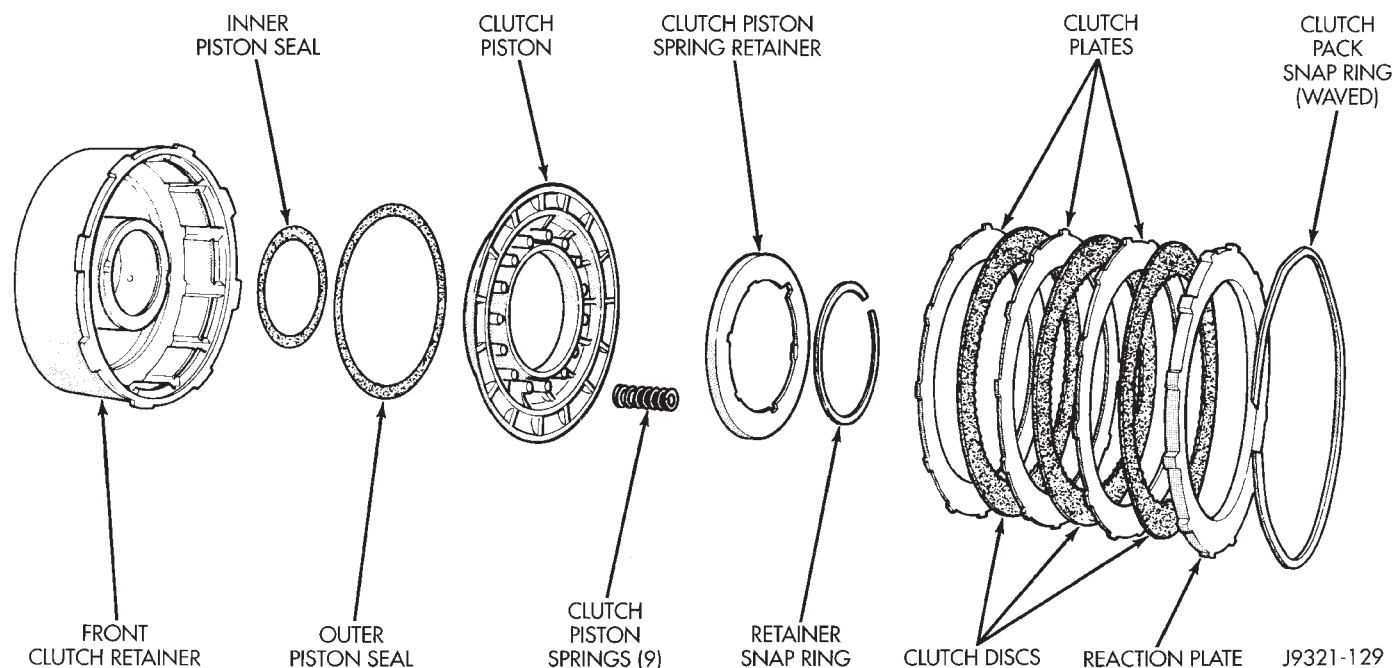
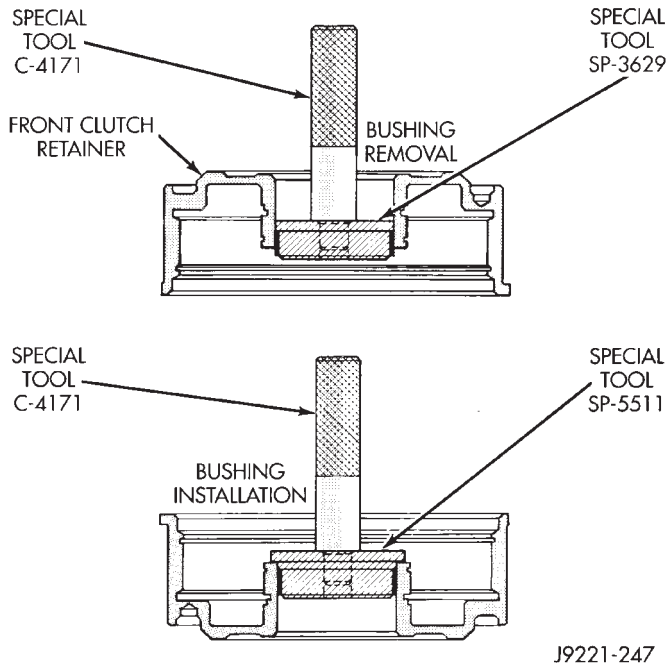
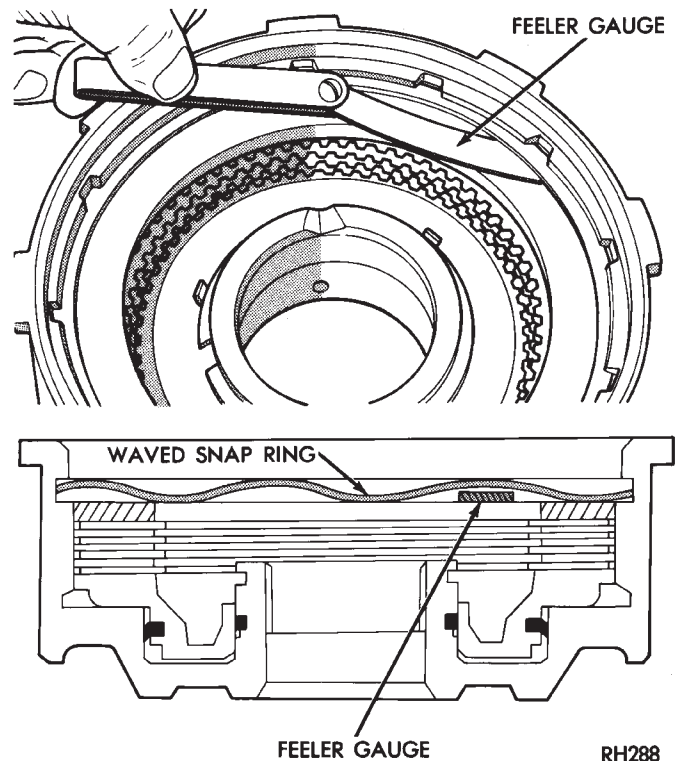

Fig. 164 46RE Front Clutch Components
Fig. 165 Front Clutch Retainer Bushing Replacement Tools
Fig. 167 Typical Method Of Measuring Front Clutch Pack Clearance
(4) Remove clutch piston springs (Fig. 164). **Note position of piston springs for assembly reference.**
(5) Remove clutch piston from retainer with a twisting motion.
(6) Remove and discard clutch piston inner and outer seals.
(7) Assemble Tool Handle C-4171 and Bushing Remover SP-3629 (Fig. 165).
(8) Insert remover tool in bushing and drive bushing straight out of clutch retainer.
(1) Mount Bushing Installer SP-5511 on tool handle (Fig. 165).
(2) Slide new bushing onto installer tool and start bushing into retainer.
(3) Tap new bushing into place until installer tool bottoms against clutch retainer.
(4) Remove installer tools and clean retainer thoroughly.
(5) Soak clutch discs in transmission fluid.
(6) Install new inner and outer seals on clutch piston. Be sure seal lips face interior of retainer.
(7) Lubricate new inner and outer piston seals with Ru-Glyde, or Mopar® Door Ease.
(8) Install clutch piston in retainer. Use twisting motion to seat piston in bottom of retainer. A thin strip of plastic (about 0.015 - 0.020 in. thick), can be used to guide seals into place if necessary.
(10) Install spring retainer on top of piston springs.
(11) Compress spring retainer and piston springs with Tool C-3863-A.
(12) Install spring retainer snap ring and remove compressor tool.
(13) Install clutch plates and discs (Fig. 164). Three clutch discs, three steel plates and one reaction plate are required.
(14) Install reaction plate followed by waved snap ring.
(15) Check clutch pack clearance with feeler gauge (Fig. 167). Clearance between waved spring and pressure plate should 1.78 - 3.28 mm (0.070 - 0.129 in.).